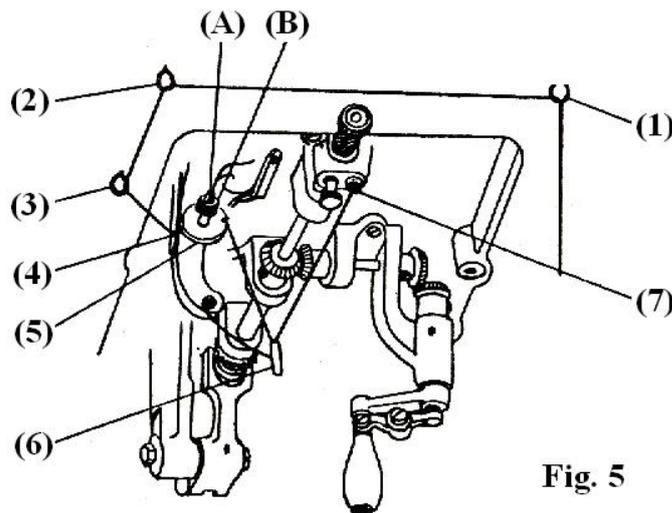

Fig. 5
7. TO THREAD THE MACHINE (Figs. 5, 6 & 7)
1) For the thread (Figs. 5 & 6)
Three thread eyelets are furnished with the machine. These eyelets should be fastened to the underside of the table as shown at (1), (2) and (3), Fig. 5. Eyelet (1) should be located directly above the cone of thread.
11. TENSIONS (Fig.5)
The tension on the thread is regulated by the thumb nut **ⓑ**, Fig. 5 at the left of the tension discs. To increase the tension turn this nut over toward you. To decrease the tension turn this nut over from you . this tension should be only tight enough to prevent the skipping of stitch.